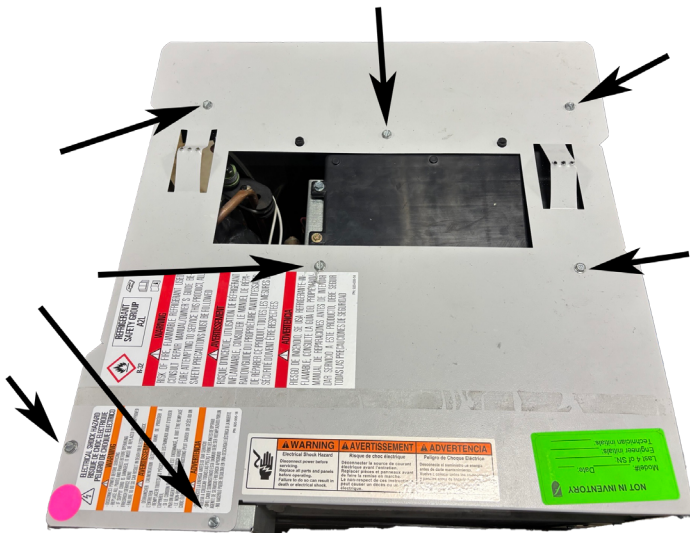

Figure 715 (Remove Top Cover)
4. Remove top cover (8 screws). Refer to figure 715.